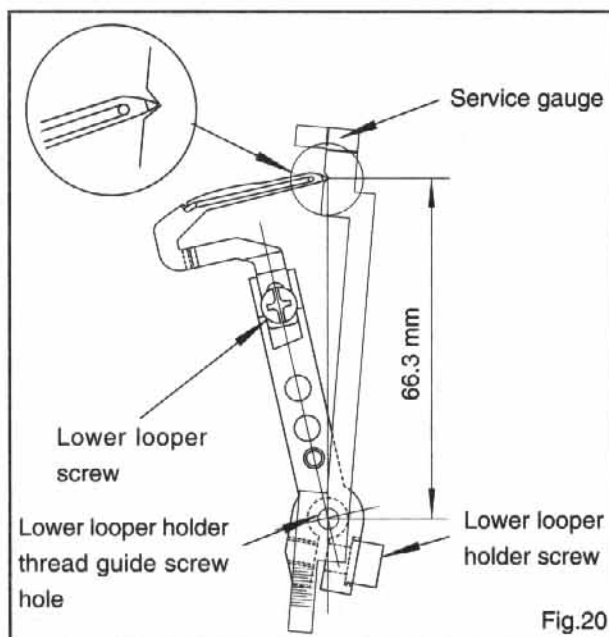

Fig.20
- Fasten service gauge to lower looper holder with thread guide screw as shown in Fig.20 and turn it back one half turn.
- Loosen lower looper screw and move lower looper up or down as required, until lower looper is in a position shown in Fig. 20